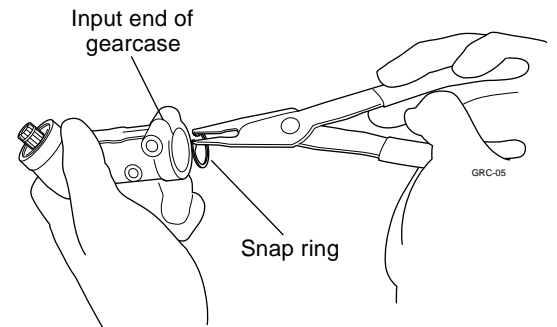

Figure 11.6 Remove the snap ring from the input end of the gearcase.
STEP 1. Use snap ring pliers such as Snap-On® p/n PR-23A or equivalent to remove the internal snap ring from the input (driveshaft) end of the gearcase (Figure 11.6).